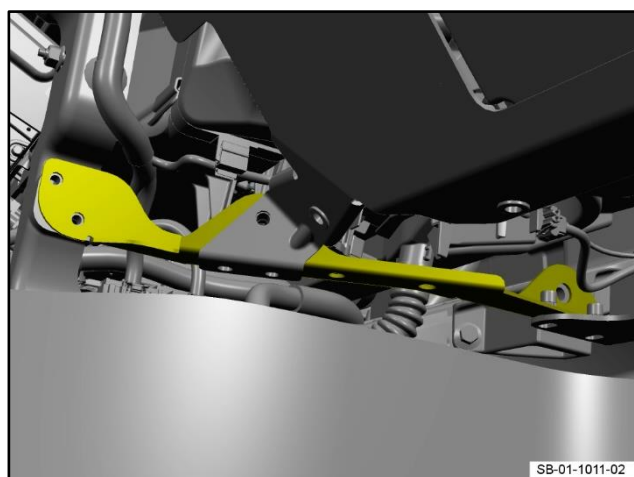

**Figure 12**
4. Carefully lift the passenger knee airbag support bracket away from the passenger knee protection plate and the IP assembly (refer to Figure 12).